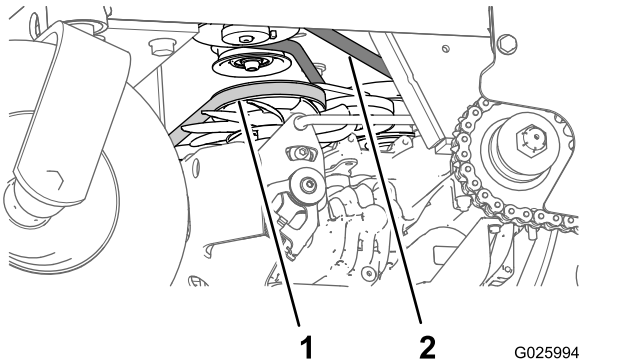

Figure 56
3. Check the auxiliary pump-drive belt condition and tension (Figure 56).
4. Check condition of the transmission-drive belt (Figure 56).